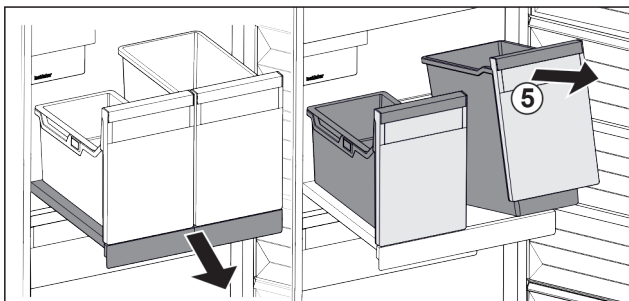

Fig. 100
- ▶ Lift the container Fig. 100 (5) at the front.